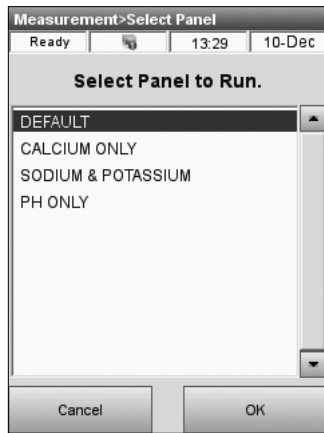

Fig. 5-4 Select Panel
- If customized test panels have been set up in **<Setup>** (see Section 3.2.2.6), the **<Select Panel>** screen (Fig. 5-4) will appear and display a list of available panels.